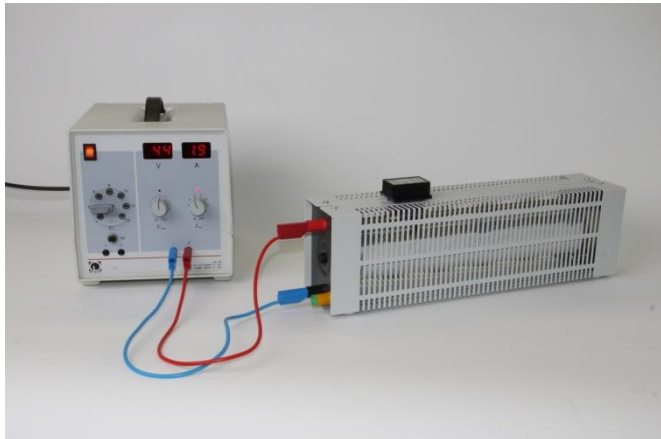

Fig. 3: Experiment set-up
- Set up the equipment as shown in Fig. 3. Do not connect up the leads yet.
- Connect the load resistor to the supply as shown in Fig. 3.